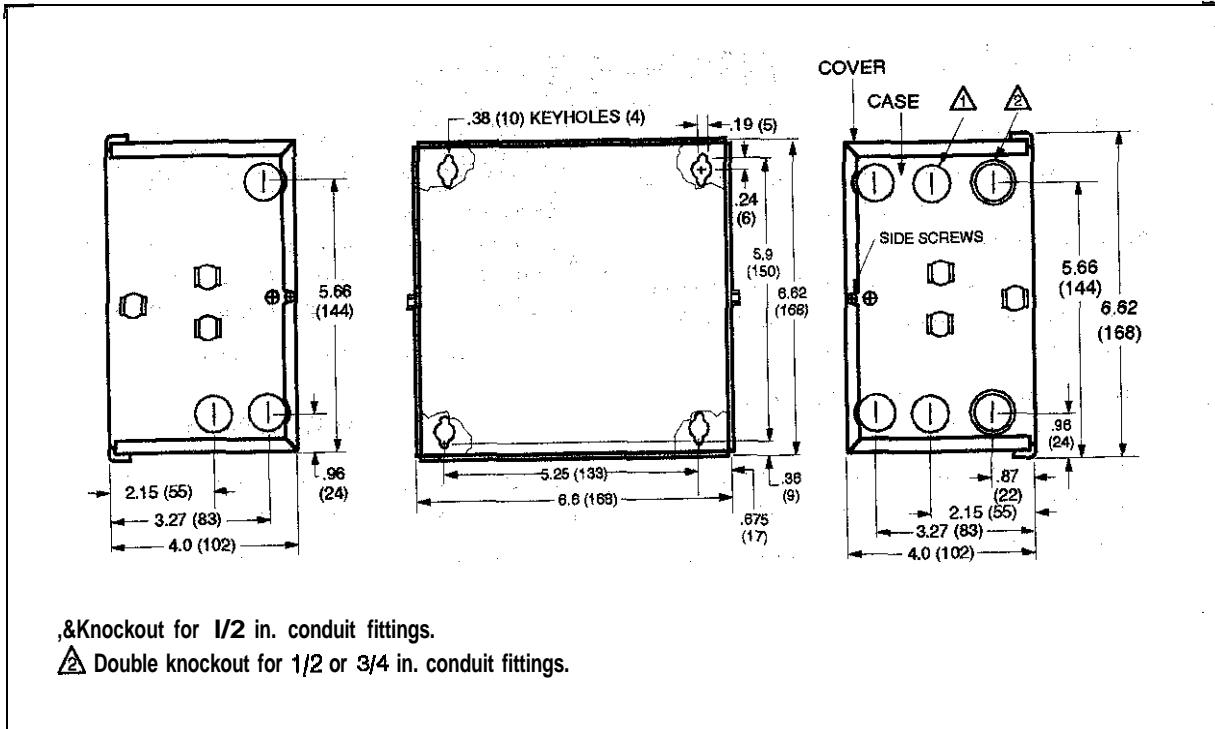

Figure 4 - W7620 Mounting
1. Remove the cover by loosening the two side screws (Figure 4) and mount the controller in a location appropriate to the equipment being controlled.